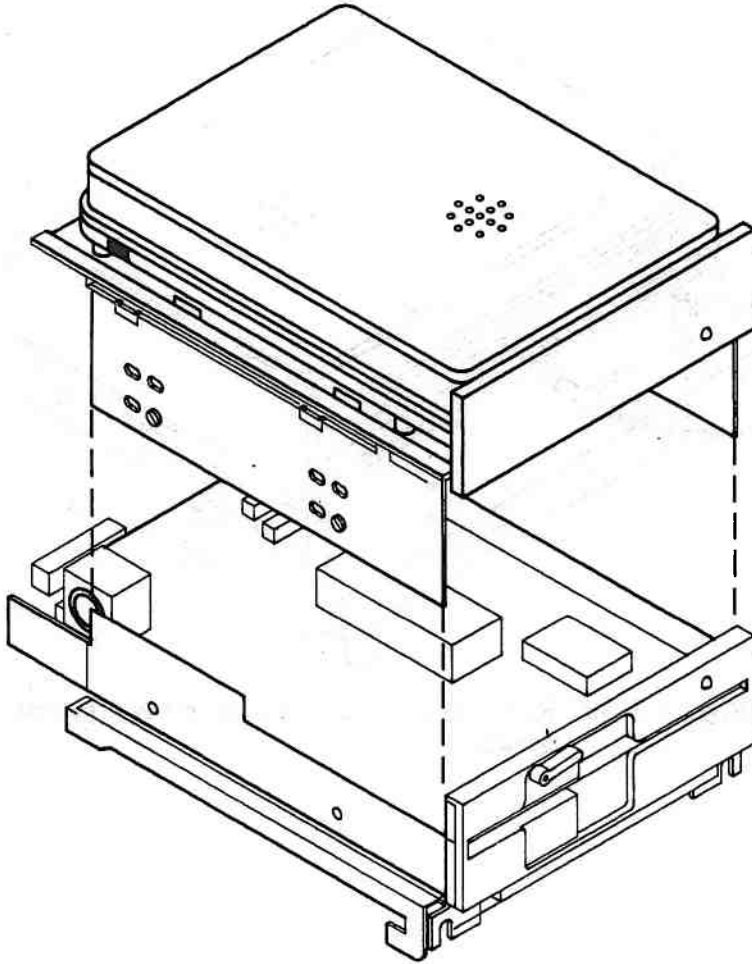

Figure 5-70. Removing the Metal Cover
8. Remove the remaining screws that hold the metal cover of the MFD Unit in place, and lift the cover and the HDU from the assembly (Figure 5-70).